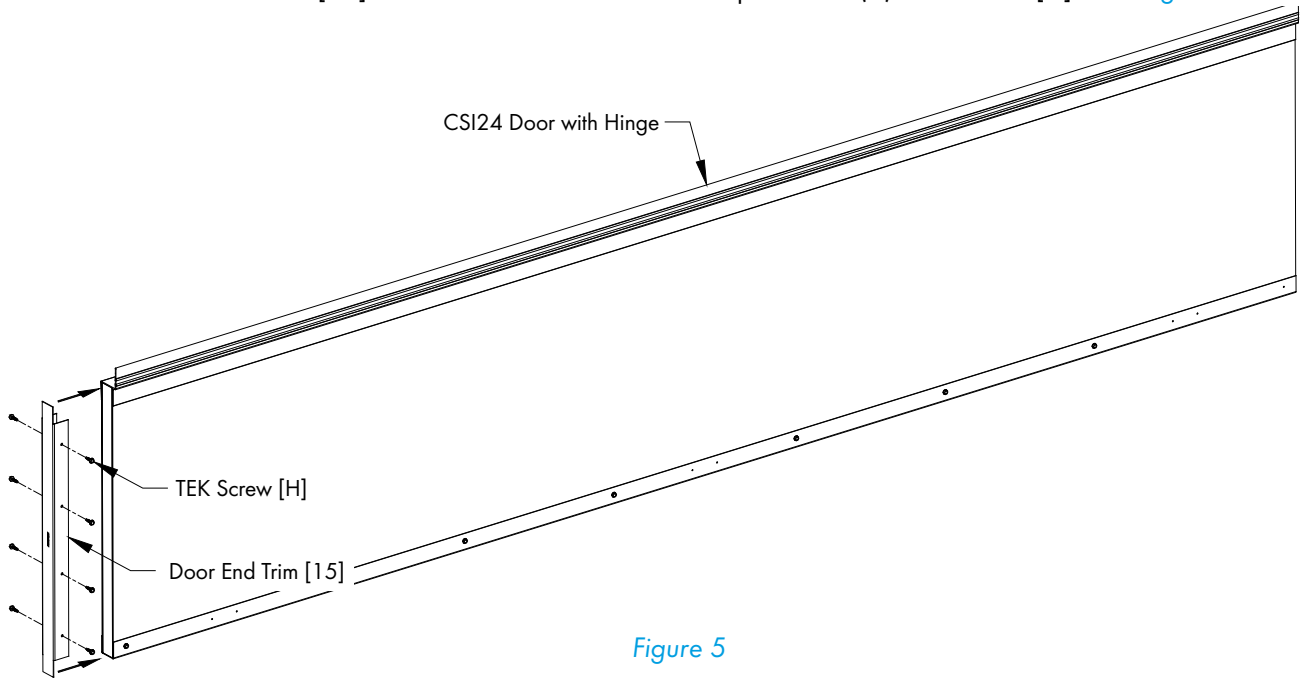

Figure 5
Slide a Door End Trim [15] over the Left Door and secure in place with (8) TEK Screws [H]. See Figure 5.